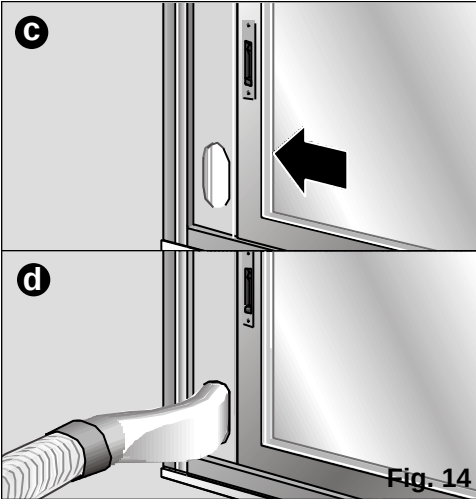

Fig. 14
- The sliding window/balcony installation accessory can also be used (See "Description of accessories"). **Fig. 14: a, b, c, d**. This accessory can be used for both horizontal and vertical windows / balconies.